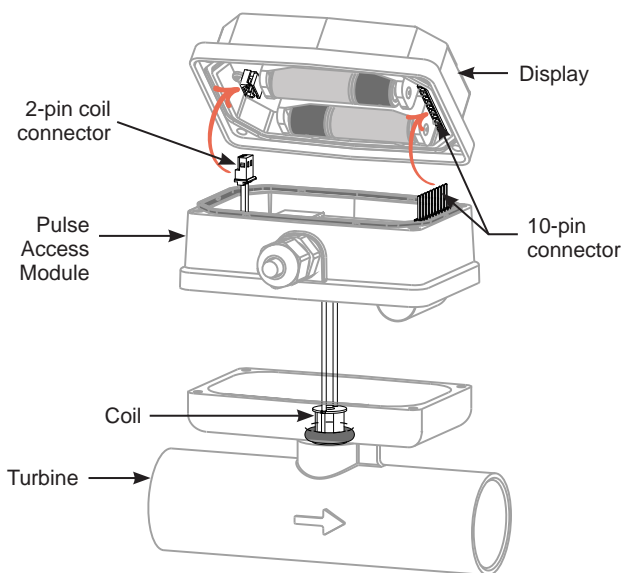

Figure 2
3. Connect the module to the 10-pin connector located on the back side of the computer electronics (see Figure 2).
4. Reconnect the coil connector to the 2-pin terminal block on the other end of the computer backside. Once the cables are installed on the display, the housing of the display can be placed on top of the module (see Figure 2).